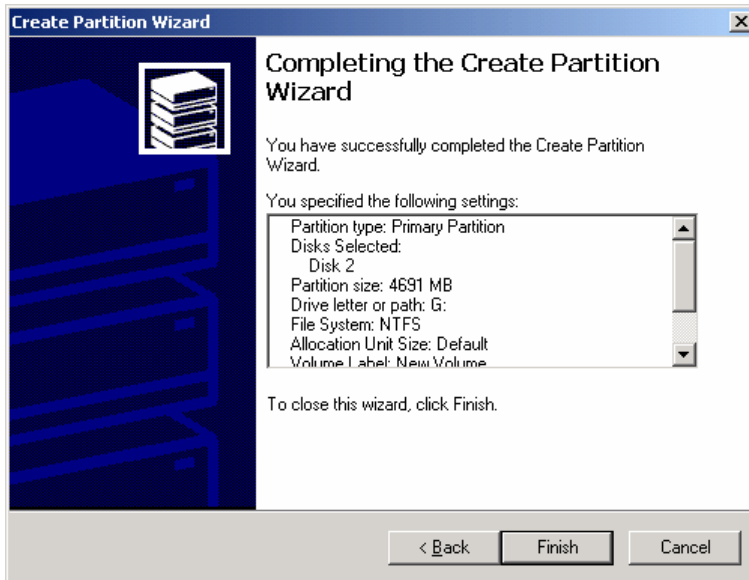

Figure 3.9 Verifying the Formatted Partition
12. When the format complete message is displayed, click **OK** and then click **Finish** to close the Format panel. Verify that the Disk Manager main window shows the correct file system (NTFS) for the formatted partition (see Figure 3.9).
*Note:* In Figure 3.9, the drive letter of the partition being formatted is G:
1. From the Windows XP desktop, double-click **My Computer** to display all connected devices. All newly partitioned disks appear in this window (see Figure 3.9).